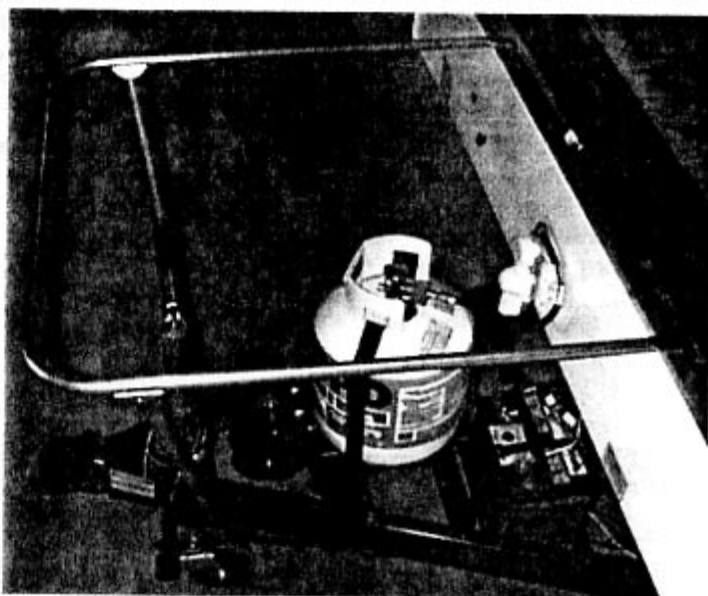

Fig. 8. Installing "U" bed support on front wall.
5. Find bed supports under bed mats. Hang front "U" bed supports on front wall, placing legs in A-frame bracket holes closest to front wall. Hang rear scissor supports on rear wall, placing legs in bumper slots. See Fig. 8, 9 and 10.